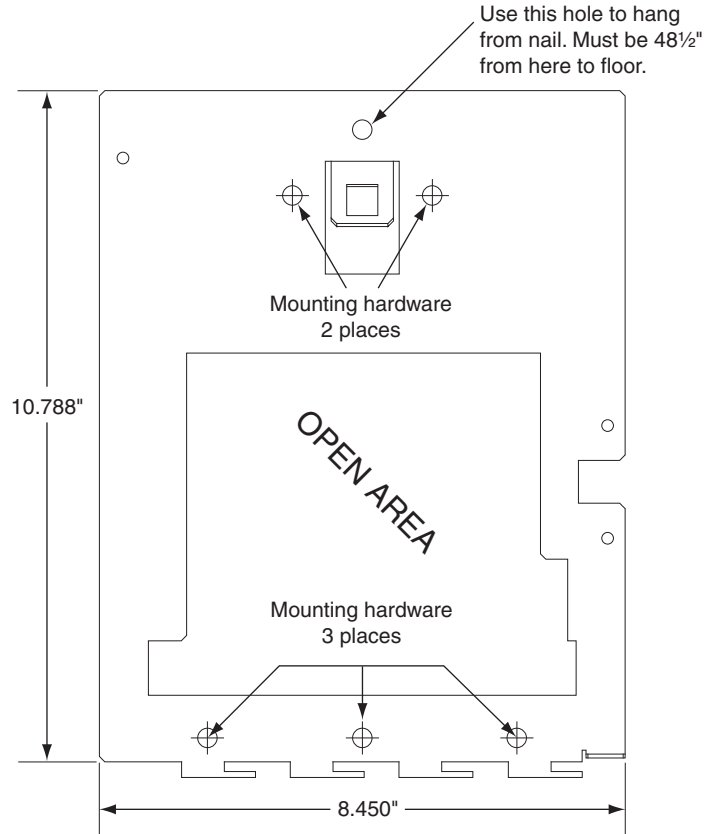

Figure 2
5. Remove the five screws that hold the wall mount in place. See figure 2 below.